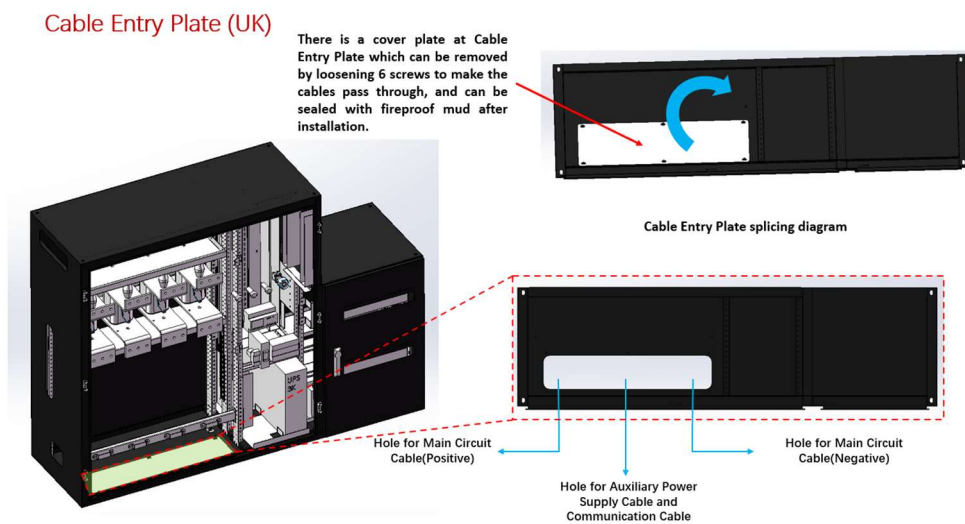

Figure22: Cable entries of the SolBank3.0 series with the “Cable Entry Plate”
- ✓ Step 3: Route cables to termination bus shown in Figure 22. Take special care to ensure correct polarity. Label cable as required.
(Note: Figure22 provided recommended cable arrangement, the actual panel provided will be blank and could be drilled per cable entry onsite)
- ✓ Step 3: Pull auxiliary power cables from auxiliary power supply to SolBank3.0 series via the location identified in Figure 22.